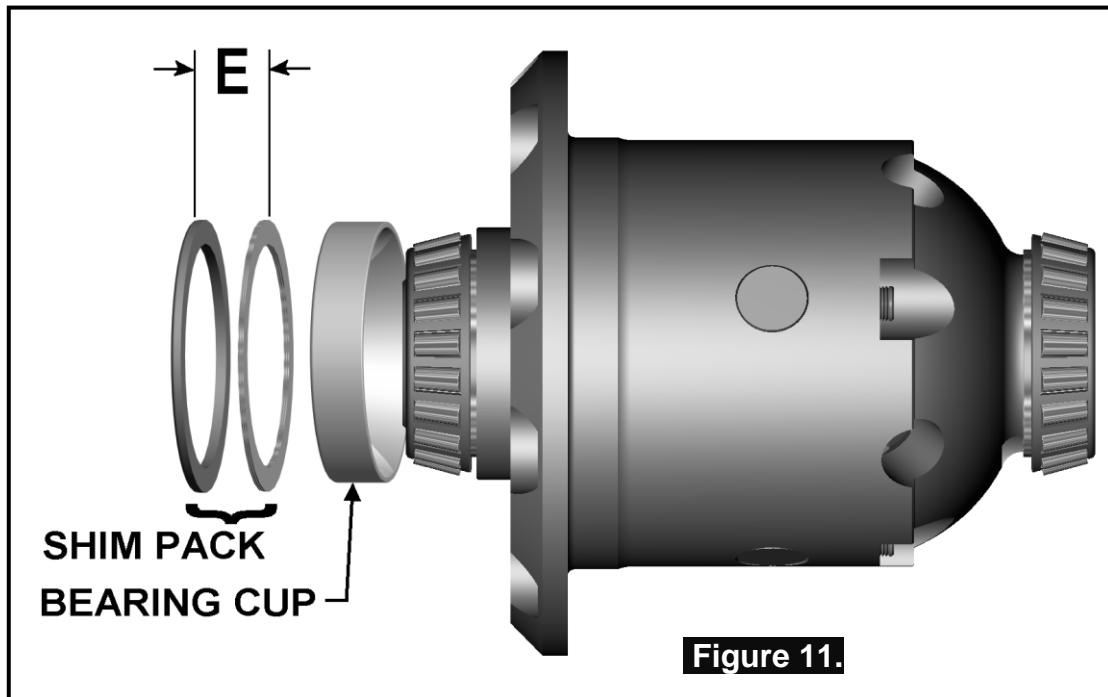

Figure 11.
In order to preload the tapered roller bearings in your *Air Locker*, measurements need to be taken so that a value can be calculated for the total shim thickness 'E' in Figure 11.
- ☐ Add the specified preload amount to the end float measurement determined with the feeler gauge to determine a shim amount for 'E' (Refer to Figure 11.).